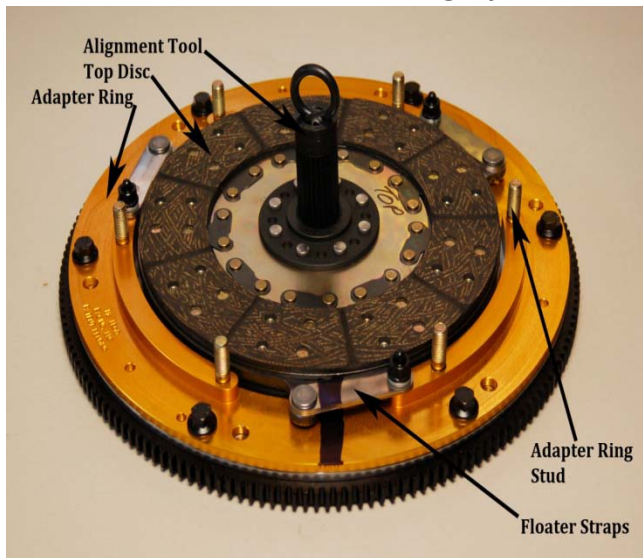

Figure 5
- 6) *4.6L and 5.4L Ford Modular engines require the installation of the supplied dowel pins (3) into the factory flywheel. GM LS engines require the installation of 2 of the supplied dowel pins into the factory flywheel.* Place adapter ring on flywheel, with the floater attached, using OEM pressure plate bolts. **(Some kits are supplied with new bolts for attaching adapter ring. In these cases use these bolts as they provide necessary clearance.) (Do not use LocTite!)** Do not add any washers to any locations if they were not present with the McLeod clutch assembly! Torque these bolts to factory specs. Note: If the floater was removed from the adapter ring re-torque all 5/16” nuts to 25 ft/lbs.
- 8) Install the top disc using the alignment tool and be certain it fully engages the pilot bearing to correctly center the discs. Figure 5